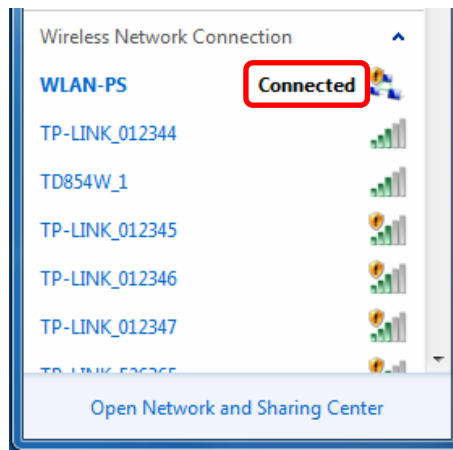

Figure 3-25
8. Once the connection is successful, you will see the following screen shown in Figure 3-25.